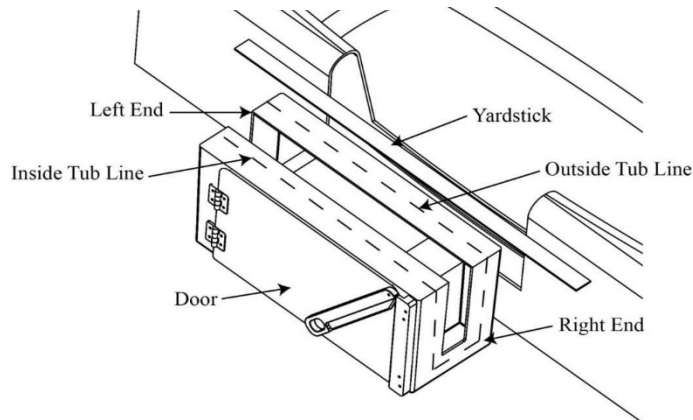

FIGURE 4
7. Use a tape measure and transfer the shape of the inside of the tub edge to the step. Remember that the tub may be narrower in the center, so measurements for the inside line must be made every 3" from one end of the CleanCut Tub Door™ to the other. Once completed, use your yard stick and marker to connect the markings for the inside line (Figure 4).